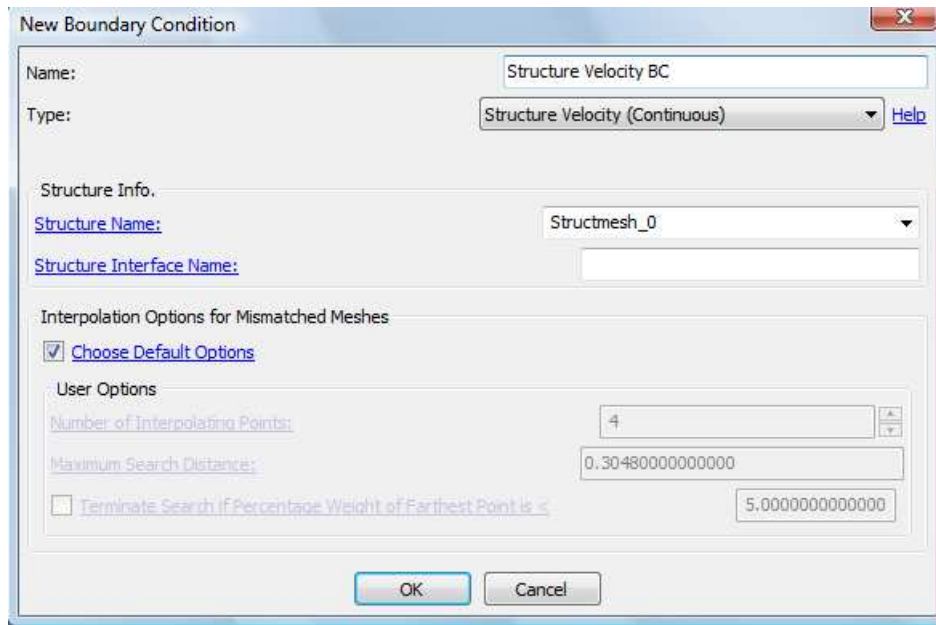

Figure 9.41: Edit structure velocity boundary condition window.
- Select **Structure Velocity (Continuous)** from the drop-down menu for ‘Type’. The window in Figure 9.41 will appear.